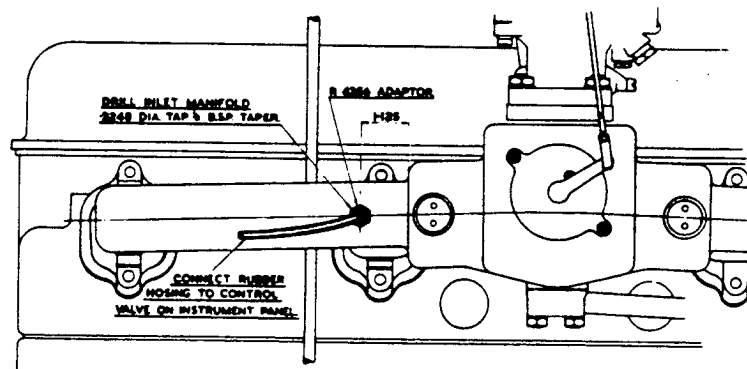

FIG.5. DRILLING OF MANIFOLD (LEFT-HAND DRIVE CARS).
- a) Left-hand drive cars:- Drill and tap the induction manifold and fit the special adaptor (R-4356) as shown in Fig.5.